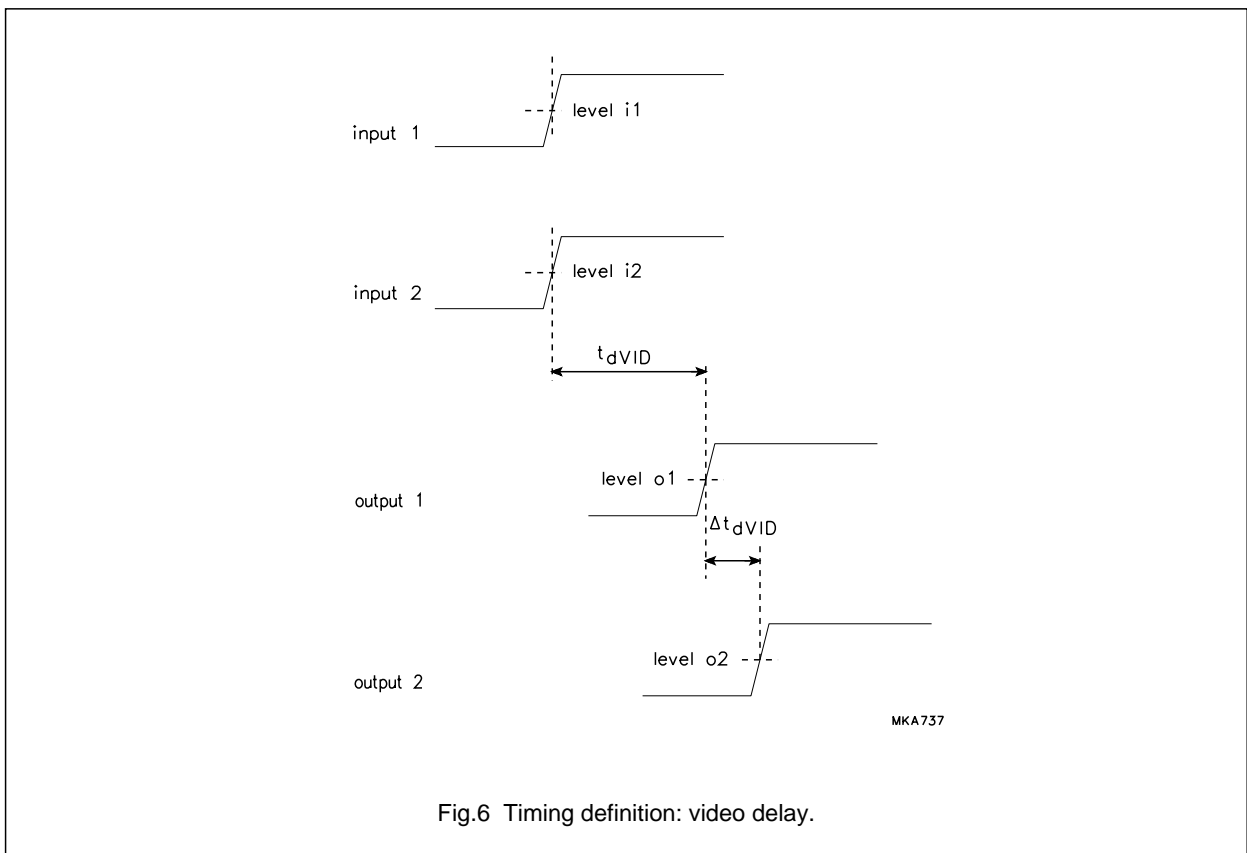

Fig.6 Timing definition: video delay.
7. The video delay between input and output and delay differences are illustrated in Fig.6. Inputs 1 and 2 are either fast blanking input plus a video signal or two video signals. The amplitude of the video signal is 0.5 V (p-p). The video signal levels (i_1 , i_2 , o_1 and o_2) are 50% of the video amplitude. The fast blanking signal levels (i_1 and o_1) are 0.95 V when the signal rises and 0.5 V when the signal falls.